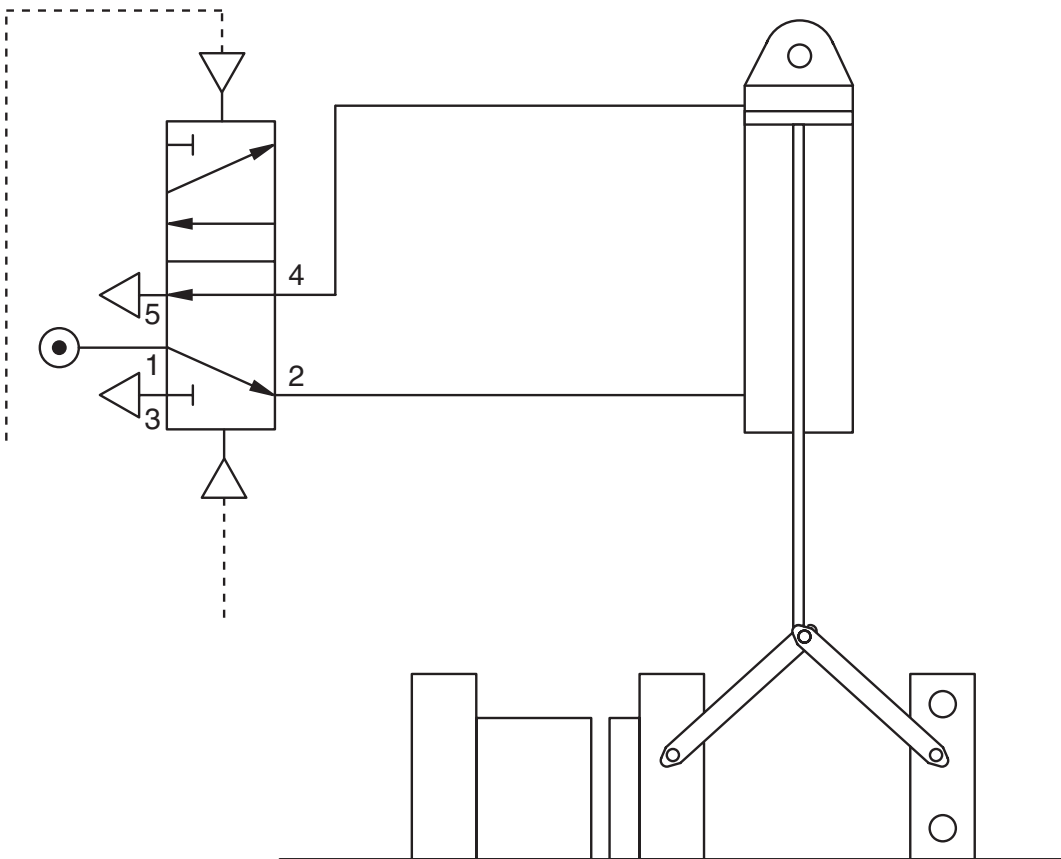

Fig. 14
- (c) Add to Fig. 14 a uni-directional restrictor that will cause the clamp to close slowly and open quickly.